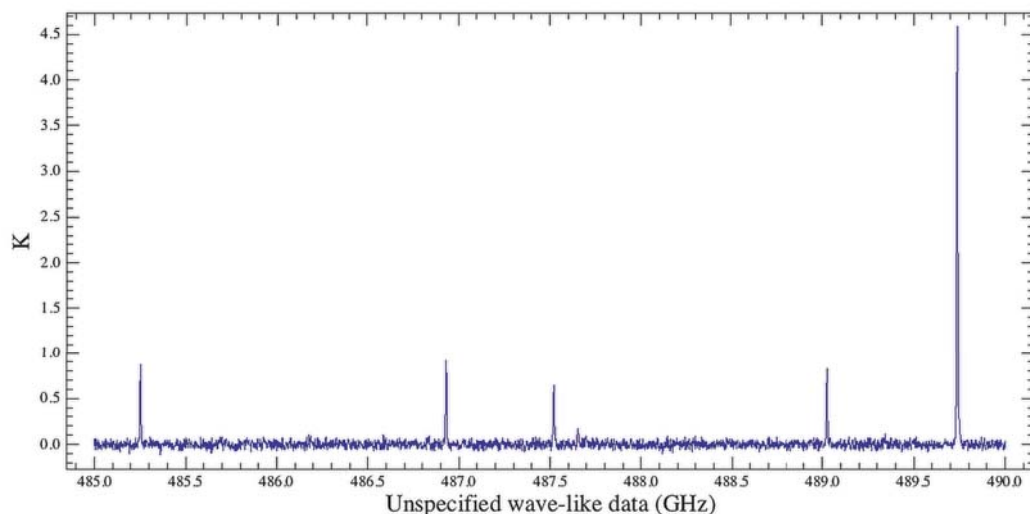

Figure 21.2. The spectrum1d of Orion South in band 1a
- a **spectrum**: the *SpectrumId* for which we want to identify the lines (see Figure 21.2)